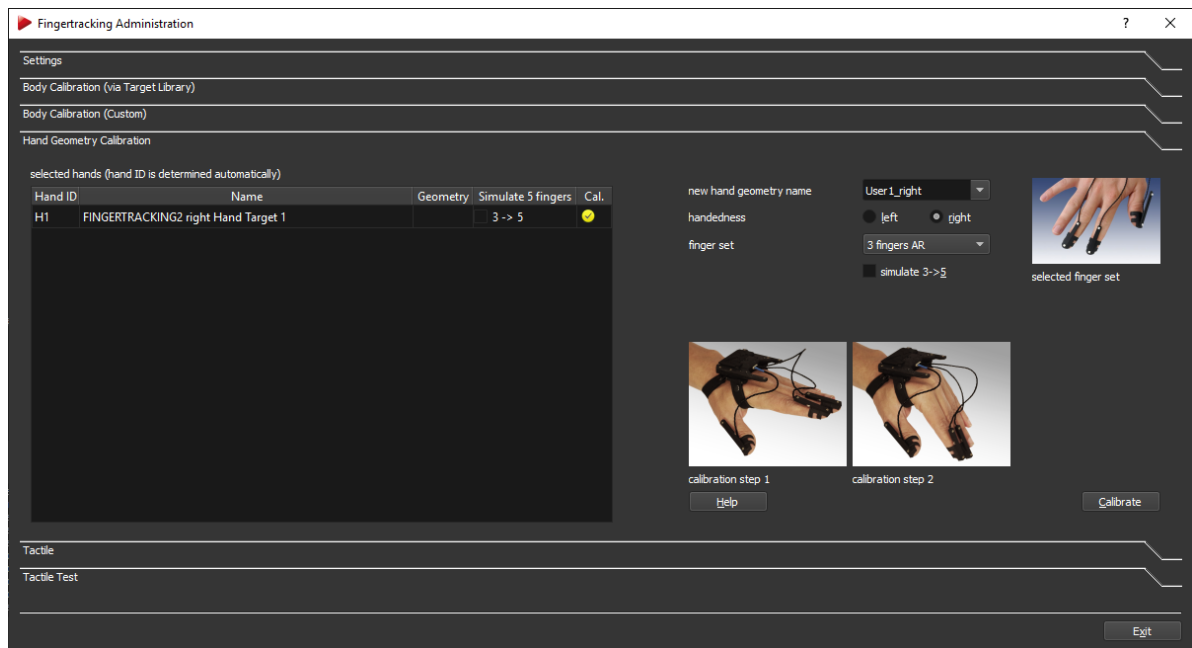

Figure 9.39: Fingertracking Administration - Hand Geometry Calibration
- all fingers have to be stretched out (see left picture in dialog, refer to figure 9.39 on page 148)
- keep the fingers stretched out (see right picture in dialog, refer to figure 9.39 on page 148)